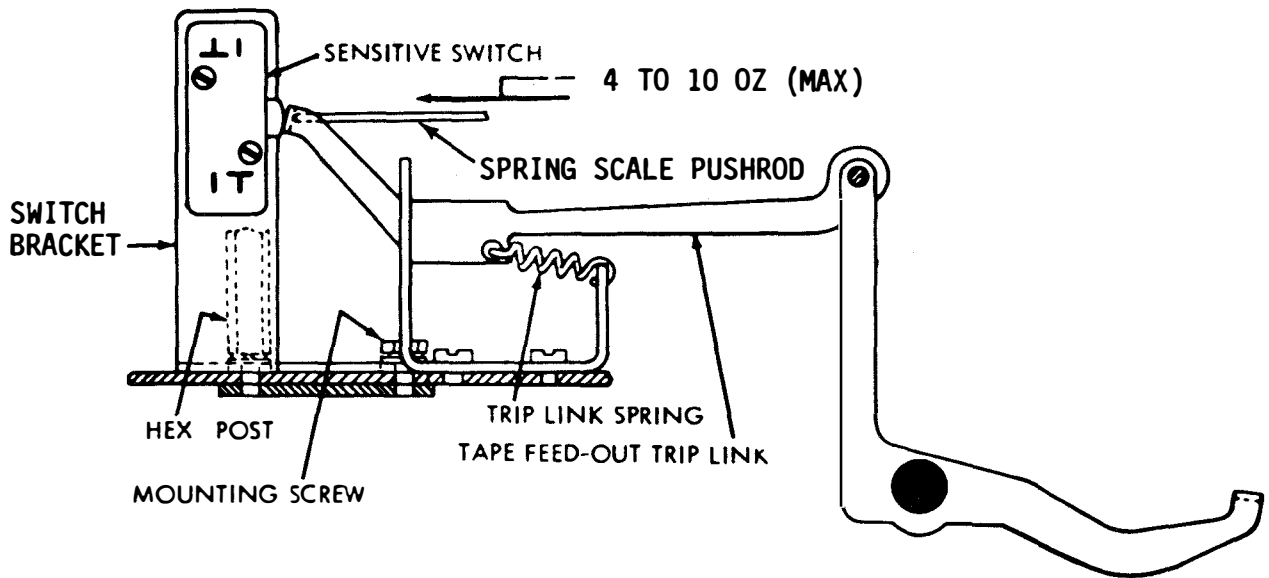

Figure 6-139. Tape Feed-Out Switch Bracket and Trip Link Spring
(1) Tape Feed-Out Switch Bracket. Adjust as follows:
- (a) Refer to figure 6-139.
(2) Trip Link Spring. Adjust as follows: